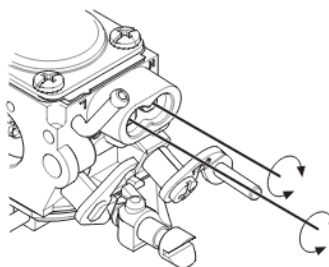

Fig. 42
- Carefully screw the new H-needle to the bottom and turn it anticlockwise "A" turns. (see figure 42)